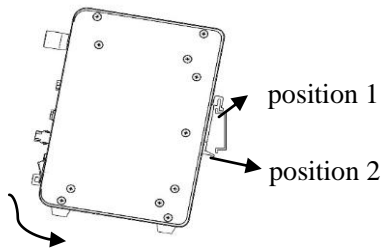

Fig. 2.1: Guide rail installation
- 1、 Installation (Fig.2.1): (1) Lock the controller back panel DIN rail track to position 1 rail.
- (2) Push down controller toward position 2.